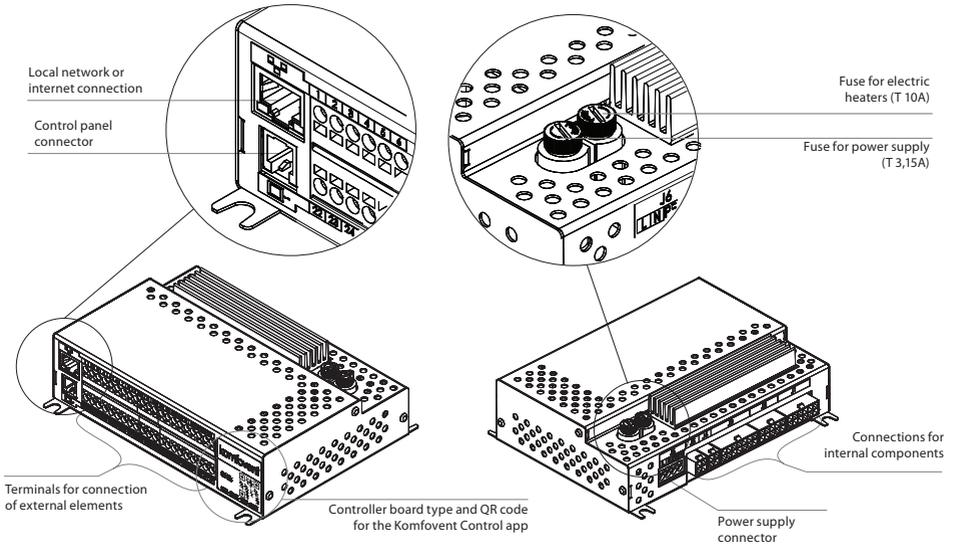

Fig. 13. C6M controller main board
- The terminal numbering shown here only applies for C6M controller board. Before connecting the external elements, check the board type on the sticker in the front of the controller (see Fig. 13).
It is advisable to run the control panel cable in such a way that it does not go near the power supply or high voltage electrical equipment (electrical inlet cabinets, electric water heating boiler, air conditioning unit, etc.). The cable can be passed through the holes in the back or bottom of the control panel (follow the installation instructions supplied with the control panel). The wire to C6M controller board is connected to a dedicated slot (RJ9 connector; see Fig. 13) or to the terminals for external connections.
The unit can be controlled not only by the control panel, but also by computer or smart phone. In such cases, the air handling unit must be connected to an local computer network or to the Internet. The unit is controlled by a computer using a web browser, or a smartphone with a Komfovent Control app. The air handling unit is connected to the computer network with a CAT5 type cable (RJ45 connector; see Fig. 13). The total cable length between the unit and the network router must not exceed 100 m.
- The easiest way to manage your unit over the internet is to use a smartphone with the Komfovent Control app. Launch the app on your phone (the phone must have Internet access). When you connect for the first time, the app will ask you to scan the QR code at the front of the controller board (see Fig. 13). When you scan the code, the app will automatically establish the connection to the unit (for more information on the Komfovent Control app, see "Domekt User Guide").